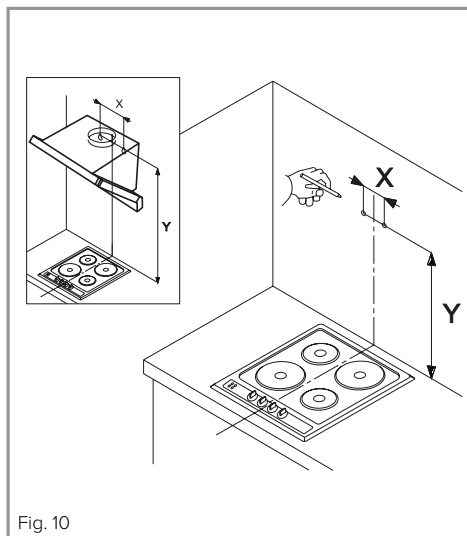

Fig. 10
- Measurement 'X' in Fig. 10 is the distance between the mounting holes on the back panel of the extractor.